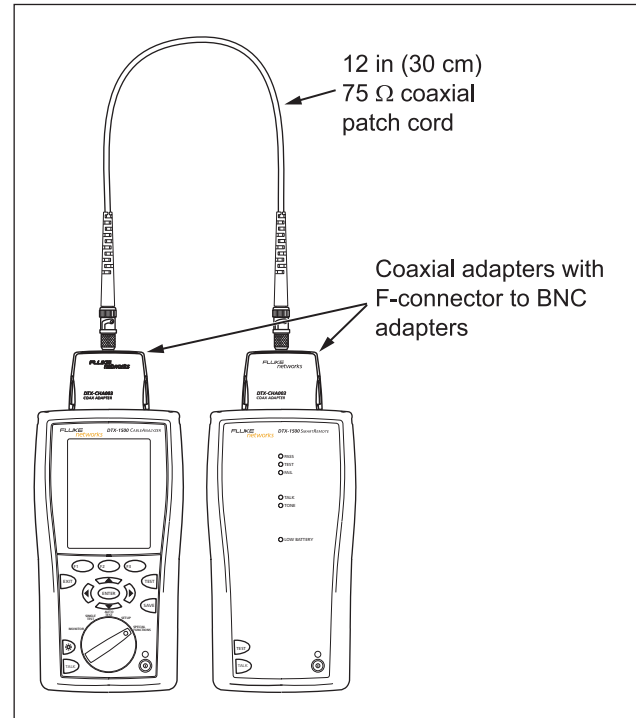

Figure 5-1. Coaxial Reference Connections
- 1 Connect the main and remote testers as shown for setting the reference in Figure 5-1.
- 1 Attach coaxial adapters to the main and remote testers, screw in the F-connector to BNC adapters; then make the connections shown in Figure 5-1.